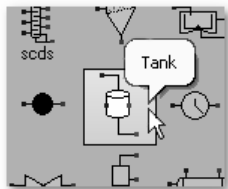

Figure 11-36: The tank icon
2. Click the **Tank** tool (see Figure 11-36). On the workspace, click to the right of the batch column to place a tank icon. Then click just below the first tank, and